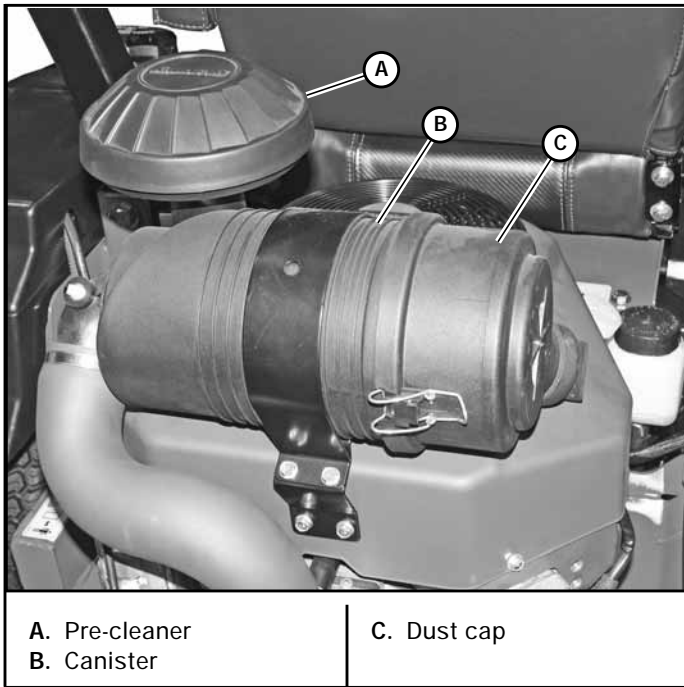

Figure 5-2
A specially designed dry filter is standard equipment on these mowers and supplies clean combustion air to the engine. Figure 5-2
3. Reinstall the dust cap. Make sure it seals all the way around the air cleaner body, then tighten the clamps. Figure 5-2